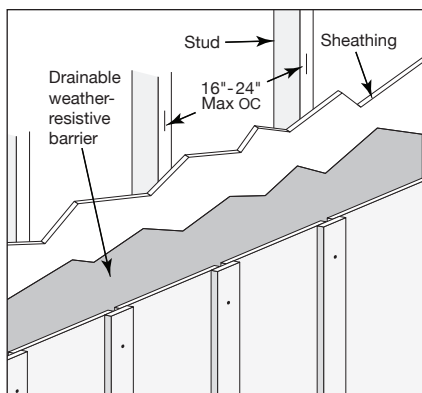

Fig. 37
- TruExterior Board and Batten Siding must be installed on frame-built walls with studs spaced 16 inches on center or at most, 24 inches on center (**Fig. 37**)